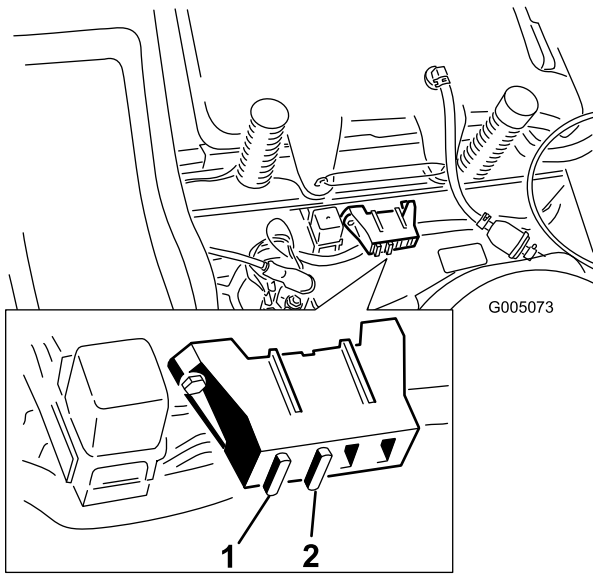

Figure 34
- Raise the seat to gain access to the fuse holder (Figure 34).
- To replace a fuse, pull out on the fuse to remove it (Figure 34).